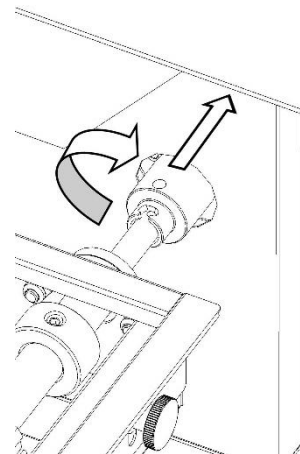

Fig.1B
5. Slide the joint towards the control panel freeing it from the conveyor belt drive shaft (see Fig.1B paragraph 9.3.1).
Slide the joint towards the control panel freeing it from the conveyor belt drive shaft (Fig.1B).